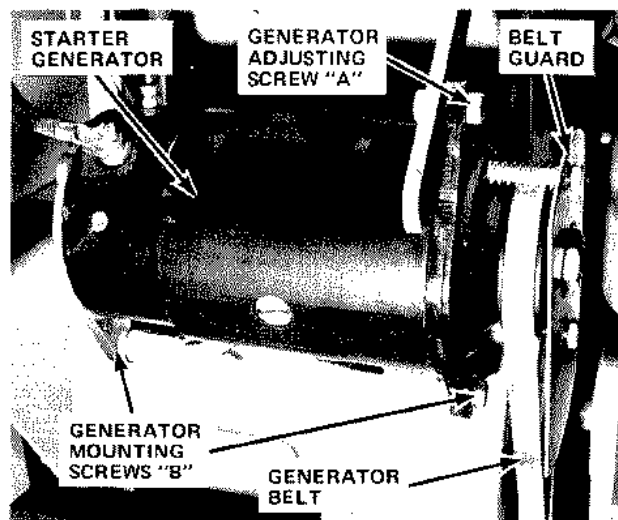

Figure 6
6. Foot Brake. Use when vehicle is being towed or in neutral; when moving transmission selector lever (12) from NEUTRAL or PARK position to DRIVE position.
7. Travel Pedal. Depress pedal with toe of foot for forward motion. Depress with heel of foot for reverse motion. Provides instant braking (center position) and speed regulation. (See Figure 6.)
6. Check generator belt for proper tension. Belt should depress 1/4 inch between pulleys with normal thumb pressure as shown in Figure 6. Should adjustment be required, shut engine off, loosen the 2 lower generator mounting screws "B" and generator adjusting screw "A". Pivot generator outward from engine until proper tension is obtained.